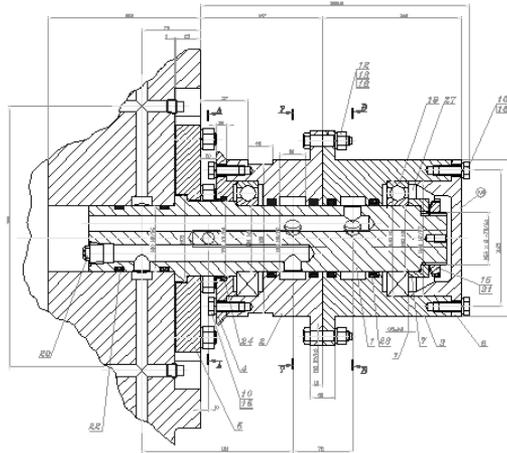

Figure 26-4: This drawing needs updated layers and a title block.
2. Save the file as `ab26-01.dwg` in your AutoCAD Bible folder. This drawing needs an updated set of layers and a title block. It is shown in Figure 26-4.